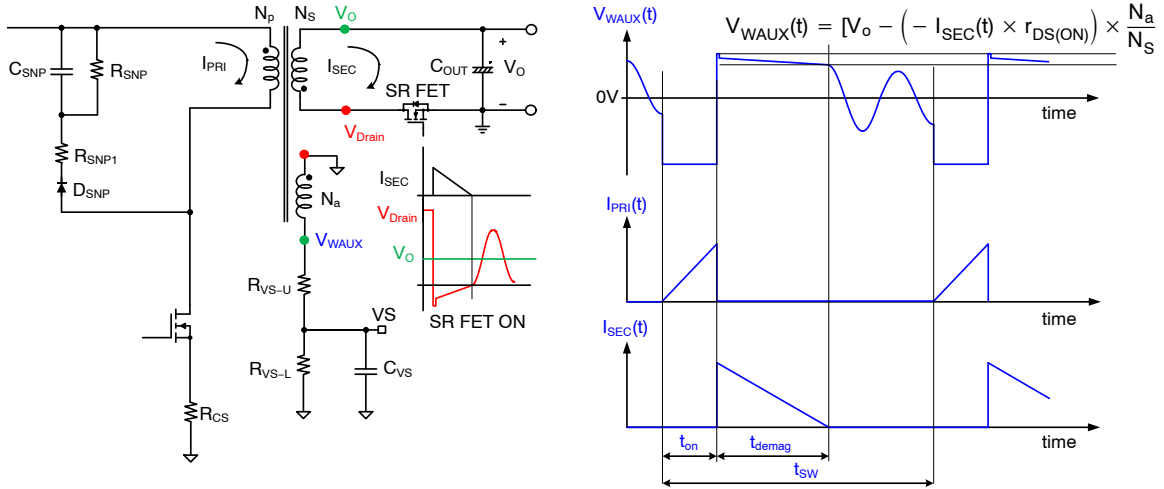

Figure 24. Typical Idealized Waveforms of a Flyback Transformer in DCM
As illustrated by Figure 24, the voltage of auxiliary winding (V_{WAUX}) is reflected to output voltage scaled by the auxiliary and secondary turns ratio minus the drain voltage of synchronous rectifier (SR) FET.